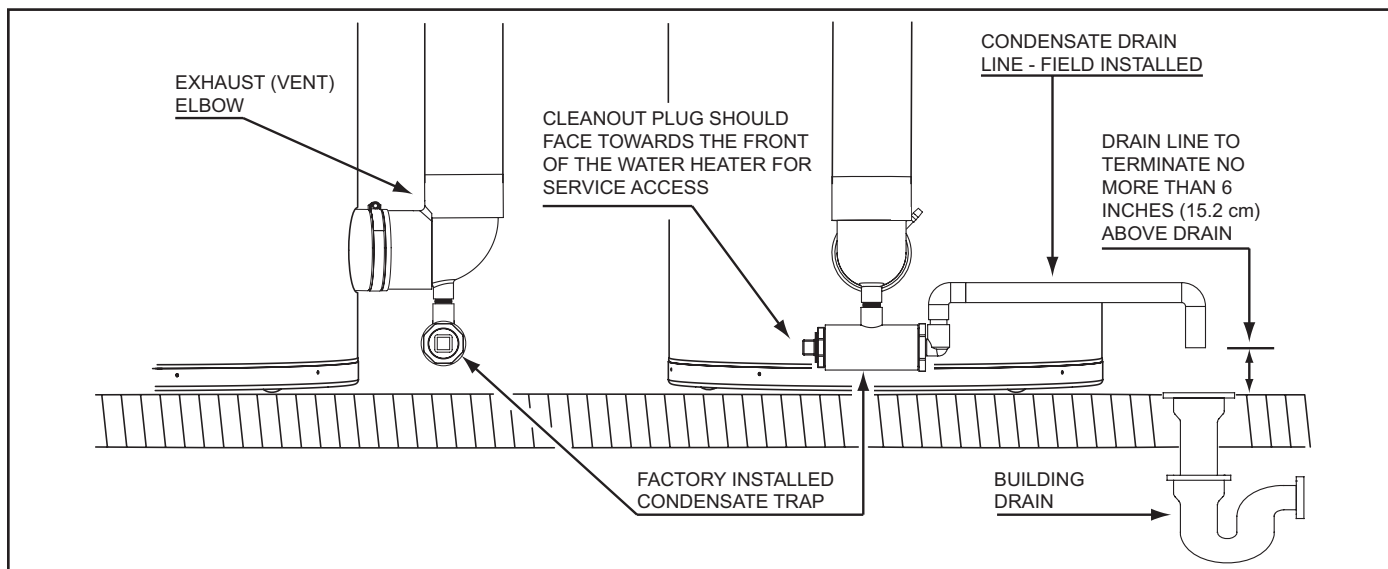
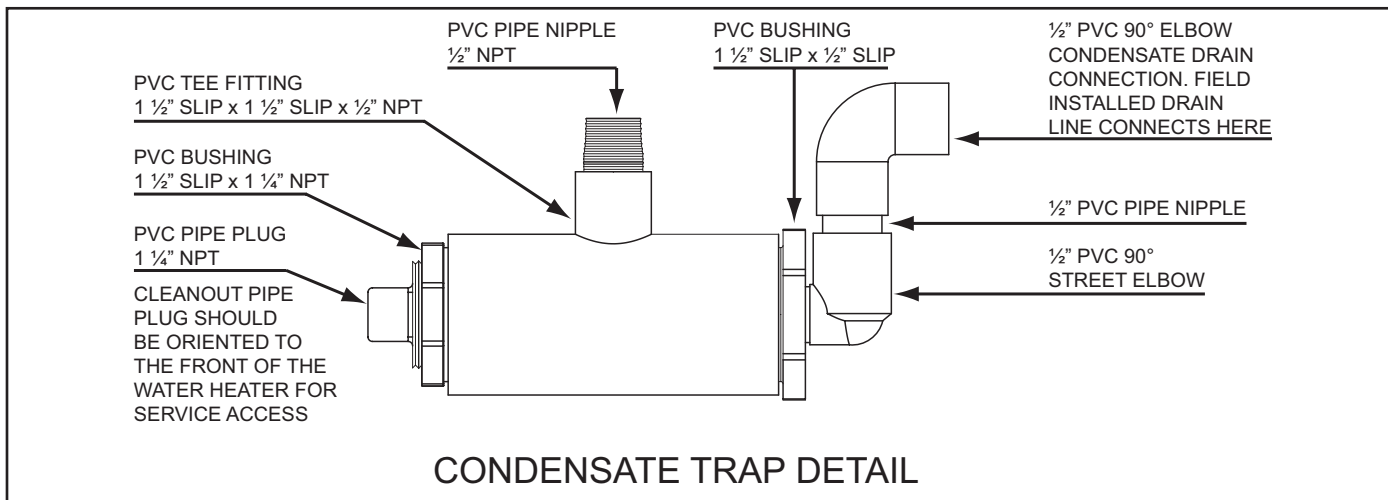

Figure 50
Figure 51
2. Install a 1/2 inch PVC condensate drain line between the condensate drain connection on the Condensate Drain Trap and a suitable building drain, see Figure 50 and Figure 51.
3. Terminate the condensate drain piping with an elbow above the drain. Ensure that any discharge will exit the condensate drain line no more than 6 inches (15.2 cm) above a suitable building drain, or external to the building, see Figure 50.
4. Ensure the condensate drain line is not elevated above the condensate drain connection on the trap, see Figure 51.